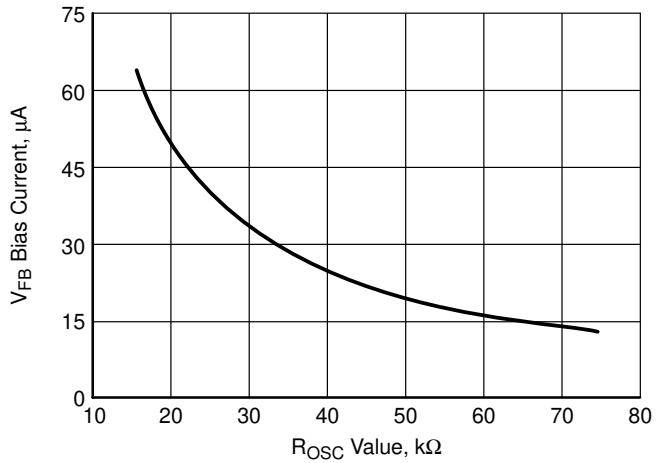

Figure 5. V_{FB} Bias Current vs. R_{OSC} Value
2. The V_{FB} Bias Current changes with the value of R_{OSC} per Figure 5.